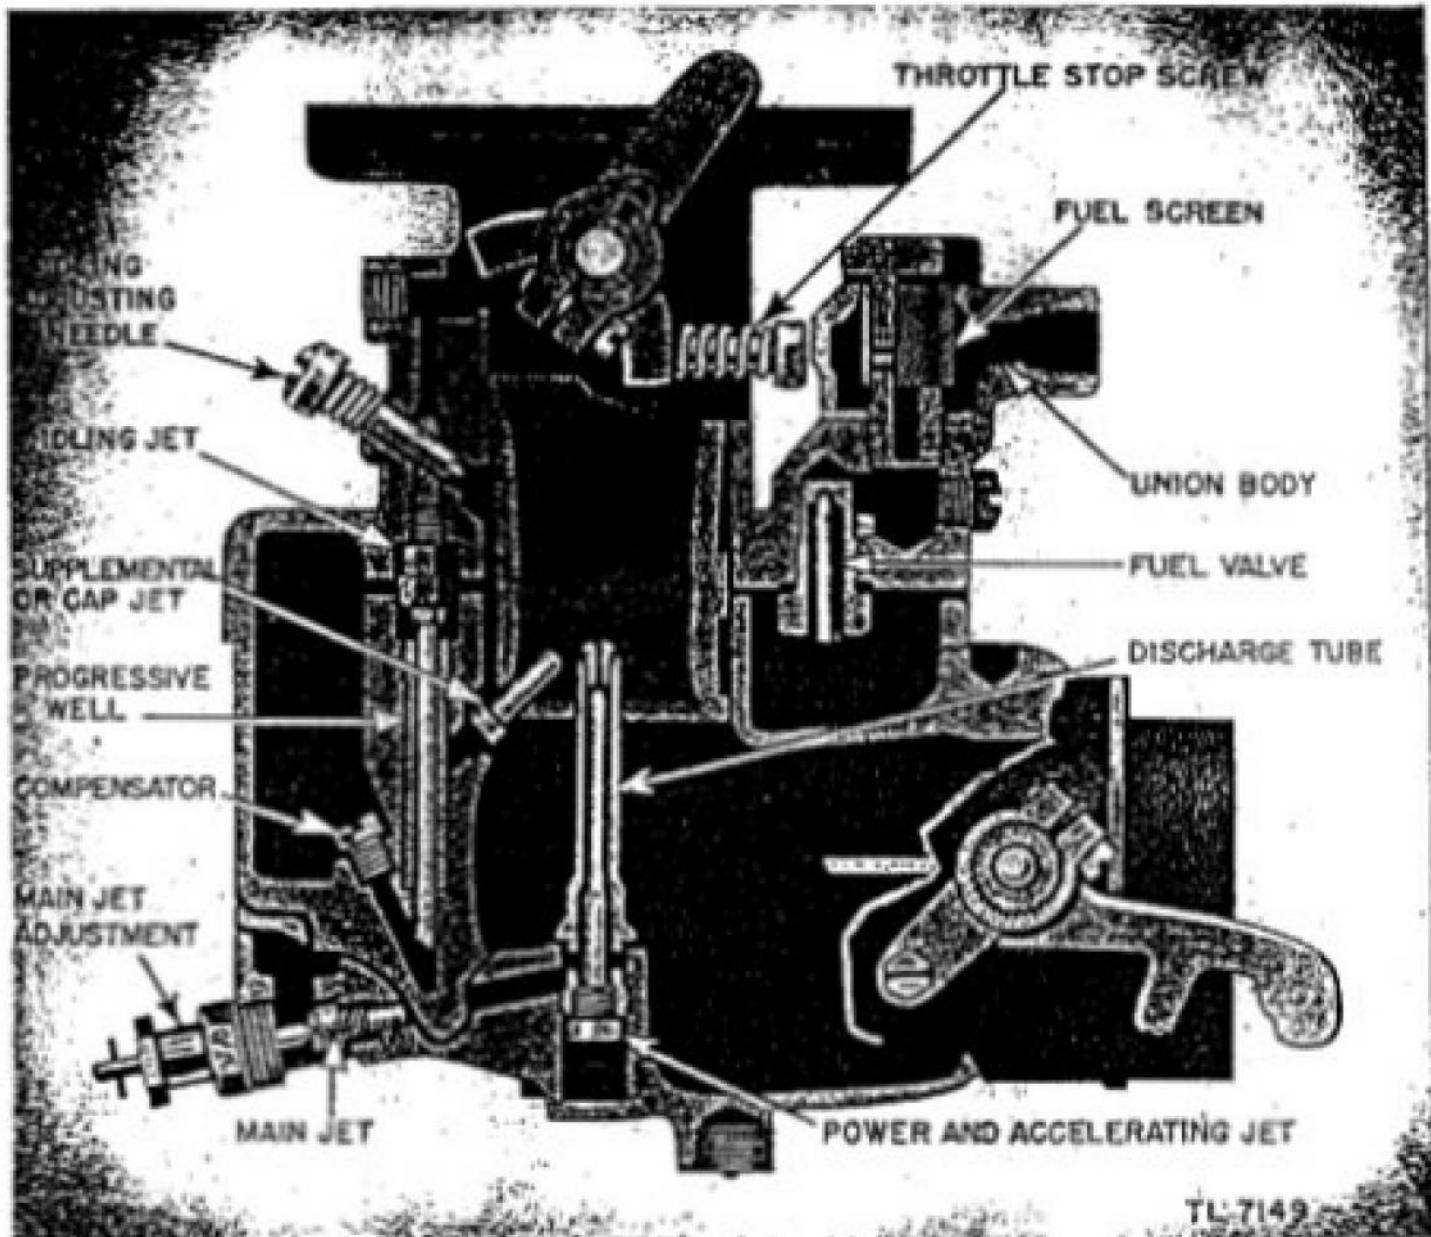

Figure 7. Cutaway view of Zenith carburetor, model 480 series.
(4) *Idling.* (a) The idling system functions only on starting and idling. When the throttle is opened past the idling position, the fuel goes the other way through the discharge tubes and the idling system is automatically out of operation. (See fig. 7.)